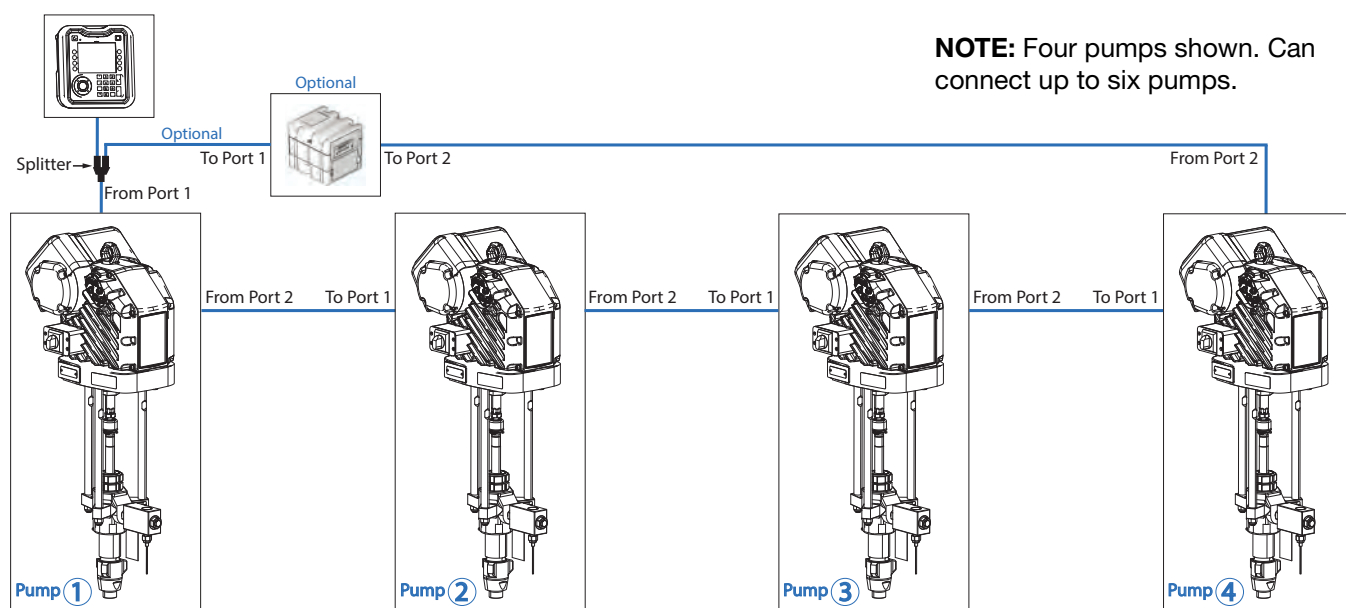

FIG. 11: Multiple Pump Connections
NOTE: Refer to **FIG. 11** for the following steps. **FIG. 11** shows four pumps connected. The ADM can be mounted on the first pump or at a location separate from the pump.
1. Connect a CAN cable from port 1 on the first pump (shown as Pump 1 in **FIG. 11**) to the splitter.
NOTE: **FIG. 11** shows the configuration with a CGM. If you are not using a CGM, the CAN cable from the last pump is connected directly to the splitter.